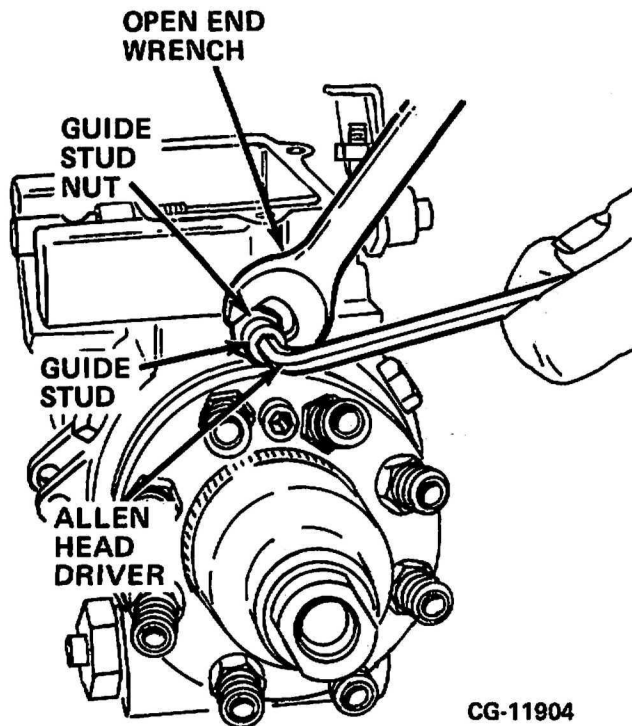

Figure 5.10. Adjusting Guide Stud
- Using a 3/16" Allen head wrench and a 1/2" open end wrench, adjust guide stud. Refer to Figure 5.10.